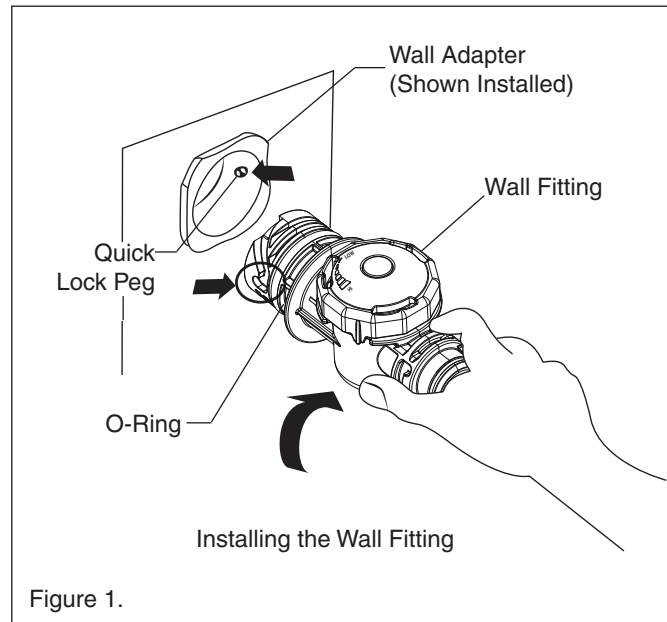

Figure 1.
4. Insert wall fitting adapter into the dedicated 1-1/2" NPT threaded return line. Hand tighten until snug. **See figure 1.**
5. Align wall fitting with the quick lock pegs inside the wall adapter. Push the wall fitting into the wall adapter until it bottoms out. Twist 1/4 turn clockwise to lock the wall fitting. **Pull gently outward to engage quick lock pegs. See figure 1.**